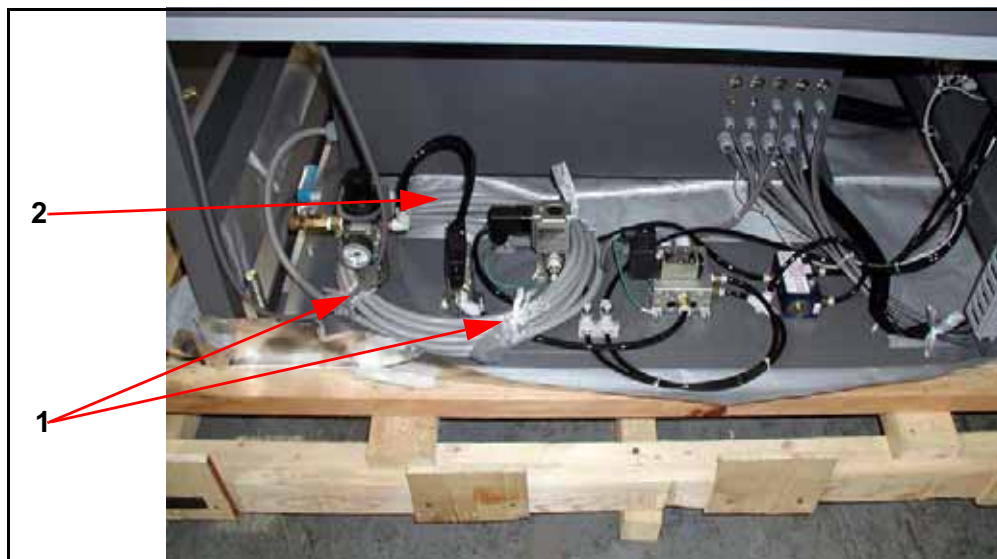

Figure 4-15. Electrical Connection
20 Cut cable ties (1 in Figure 4-15) and pull power cord (2) out of machine.